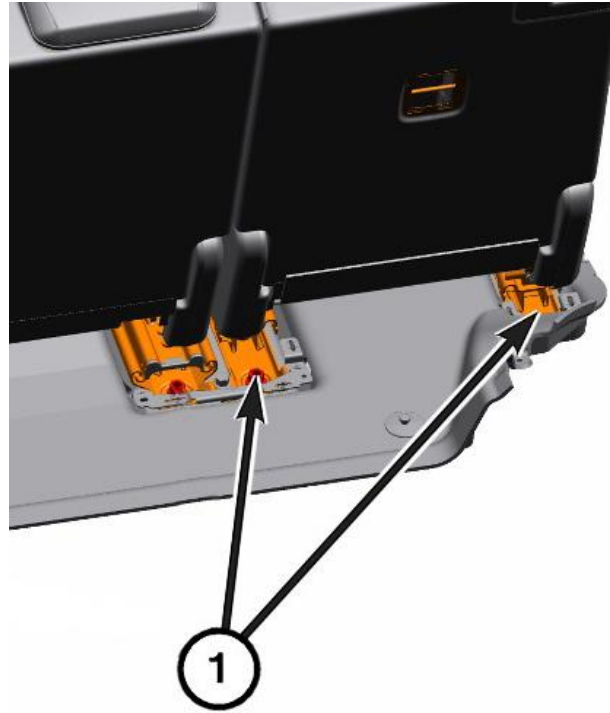

Figure 48 – Seat Rear Bolt and Nut
9. Second row 40% seat, remove the rear seat to floor bolt and nut (1) (Figure 48).